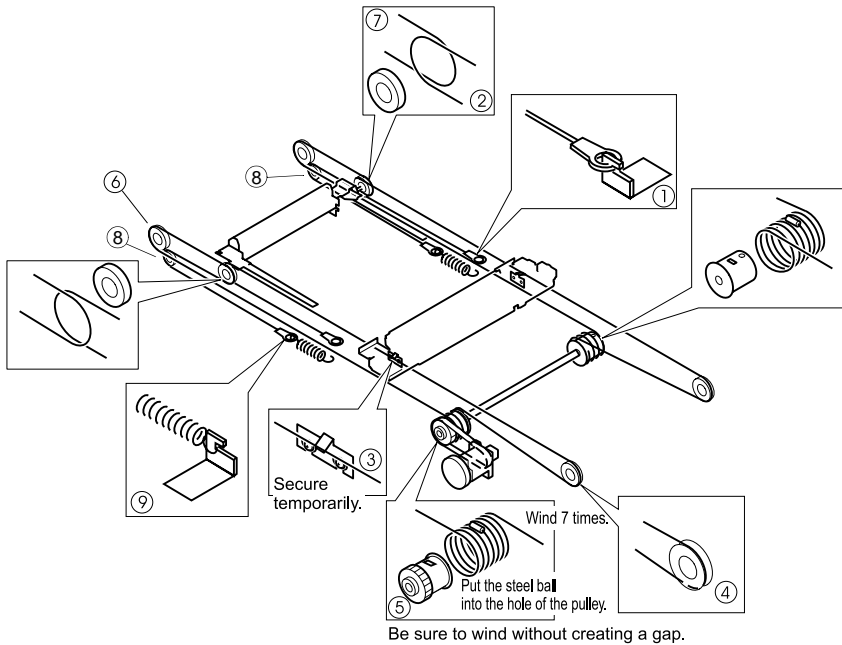

Figure 236. Cable positioning
- 18 Engage the scanner cable on the pulley and the hook as shown in figure 236.